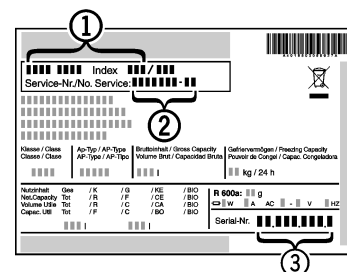

Fig. 9
- ▶ Read the appliance designation Fig. 9 (1), service no. Fig. 9 (2) and serial no. Fig. 9 (3) from the rating plate. The rating plate is located inside the appliance on the left-hand side.
- ▶ Notify a qualified service provider, specifying the fault, appliance designation Fig. 9 (1), service no. Fig. 9 (2) and serial Fig. 9 (3) no.